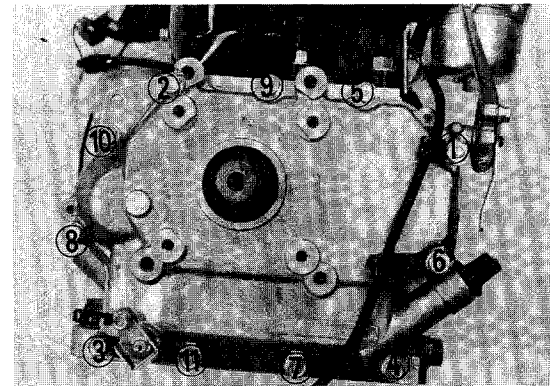

Figure 6-44
18. Install bracket behind bolts 10 and 2 and finger tighten (Figure 6-44).
19. Following numerical sequence, tighten bolts gradually to 14-17 ft.-lbs. torque (Figure 6-44).
20. Recheck end play of output shaft after tightening. End play should be 0-.012 inches. If end play is greater than .012 inches, shims (79) must be added.